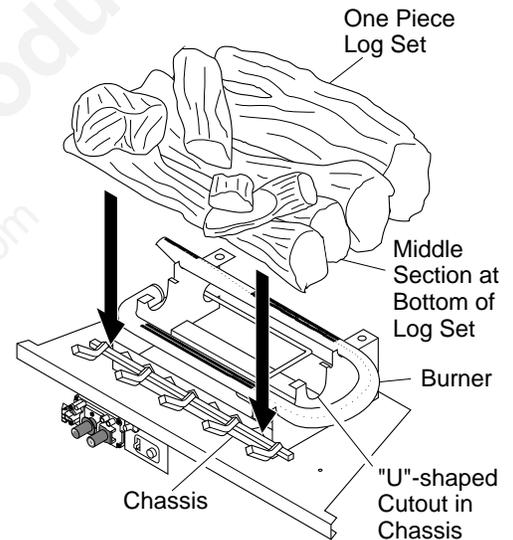
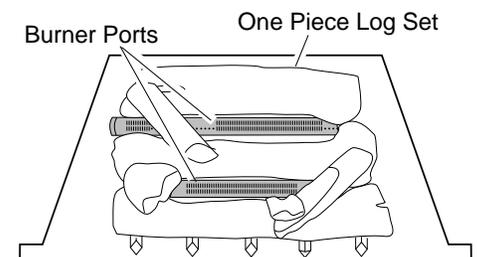

Figure 23 - Installing One Piece Log Set
Figure 24 - Installing One Piece Log Set (Top View)
1. Place one-piece log set on grate to fit as illustrated in Figure 23. Make sure middle section at bottom of log set is seated into "U"-shaped cutout in center of chassis (see Figure 24).